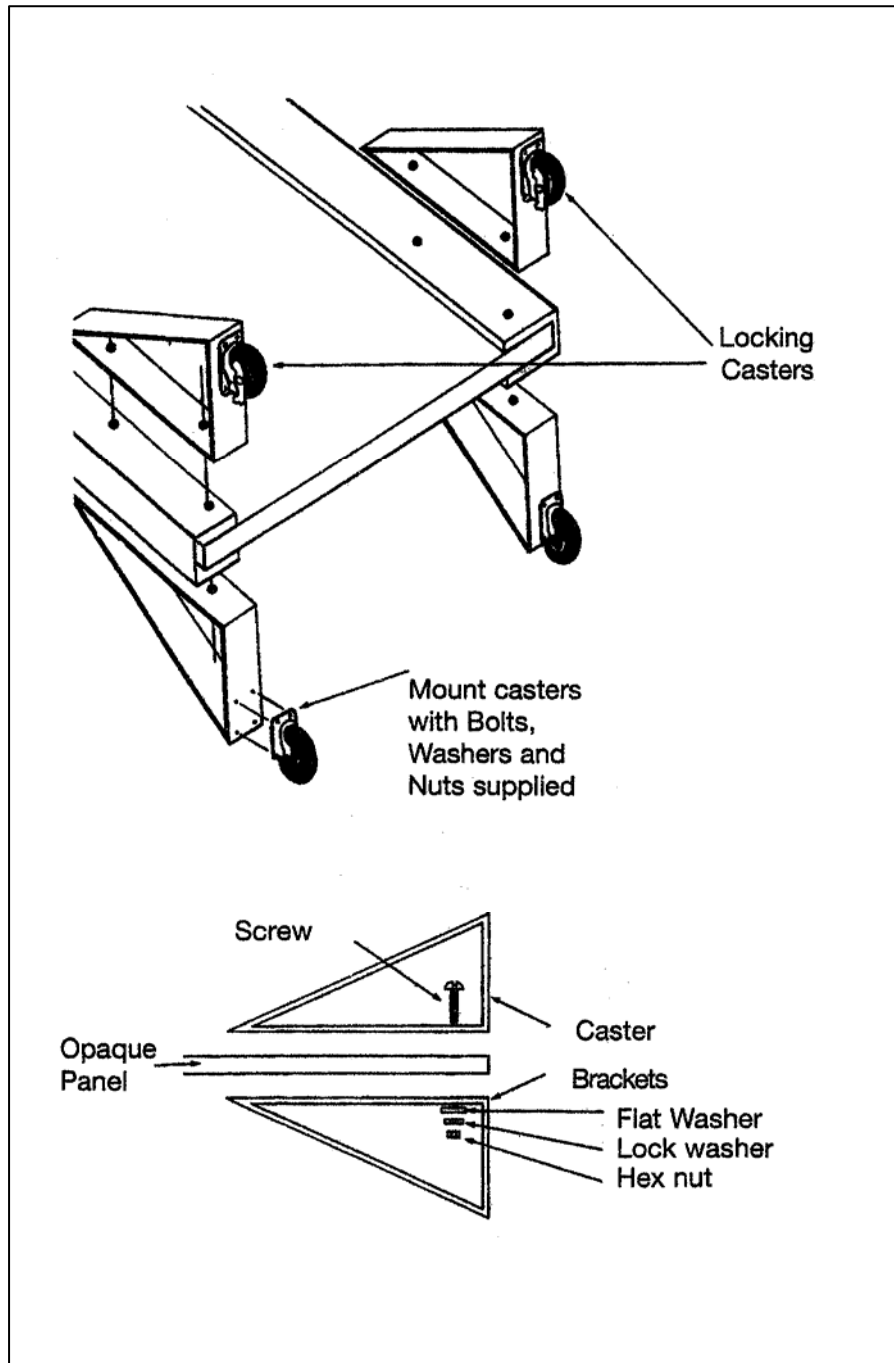

Figure 2-2. Brackets to Panel Assembly
- b. If the vertical side channels are not welded to the lower panel, position them over the edges as shown. The pre-drilled holes in the caster brackets and vertical side channels will line up with the holes in the lower panel. Using the supplied hardware (screws, washers and nuts), attach the brackets to the panel (see Figure 2-2).
For maximum safety convenience, the locking casters should be on the same side of the panel (see Figure 2-2).
- c. If the casters are not already attached to the brackets, attach them by lining up the holes in the brackets with those in the casters. Using the caster mounting hardware, (hex bolts, washers and nuts), attach them as shown in Figure 2-2.